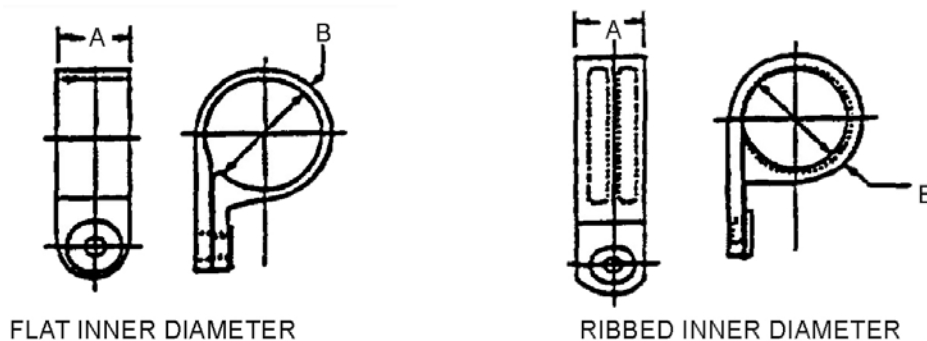

Figure 27. SAE-AS25281 Clamp
45. AS25281 Part Number. Examples of AS25281 nylon clamps are as follows (Figure 27):